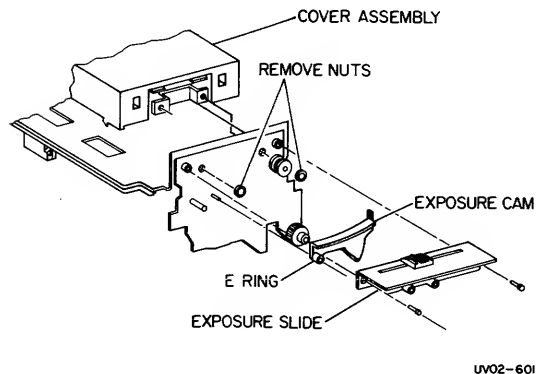

Figure 3-23. CVT Cover Removal
2. REMOVE EXPOSURE SLIDE (Figure 3-23).